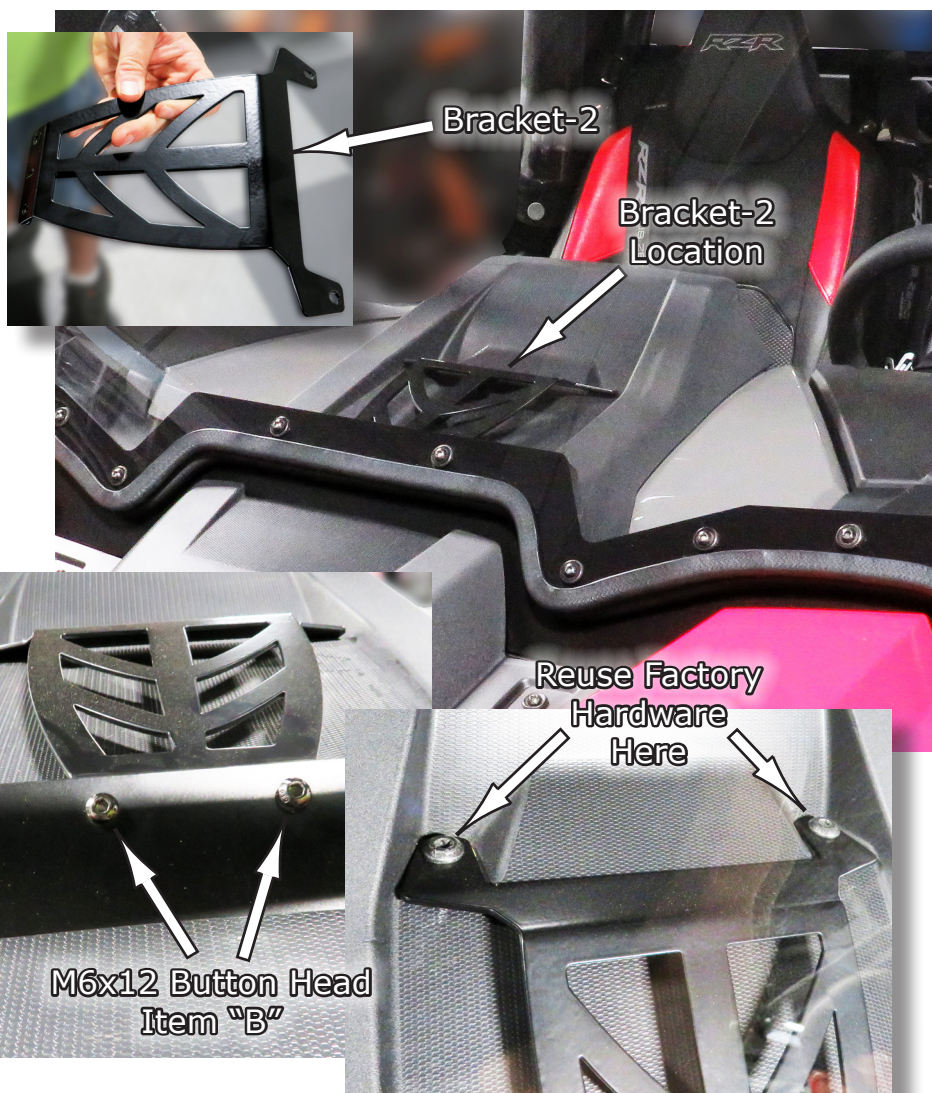

Fig.24
24. Next, you can install the **Bracket-2**. This is mounted using the M6x12 Button Bolt **Item "B"** which threads into the bracket itself on the smaller end of the bracket, which also attaches to the bottom windshield frame. See Fig.24.